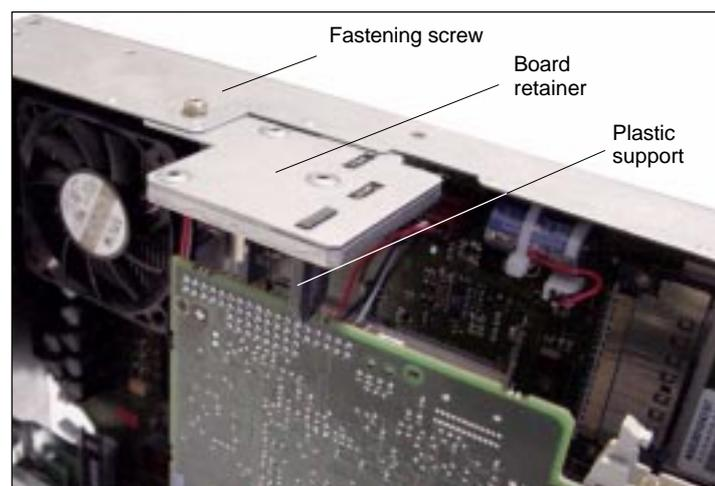

Fig. 2-11 Mounting of the module
4. Remove the fastening screw of the module holding-down device (Fig. 2-11) of the MCI board and remove the module holding-down device.